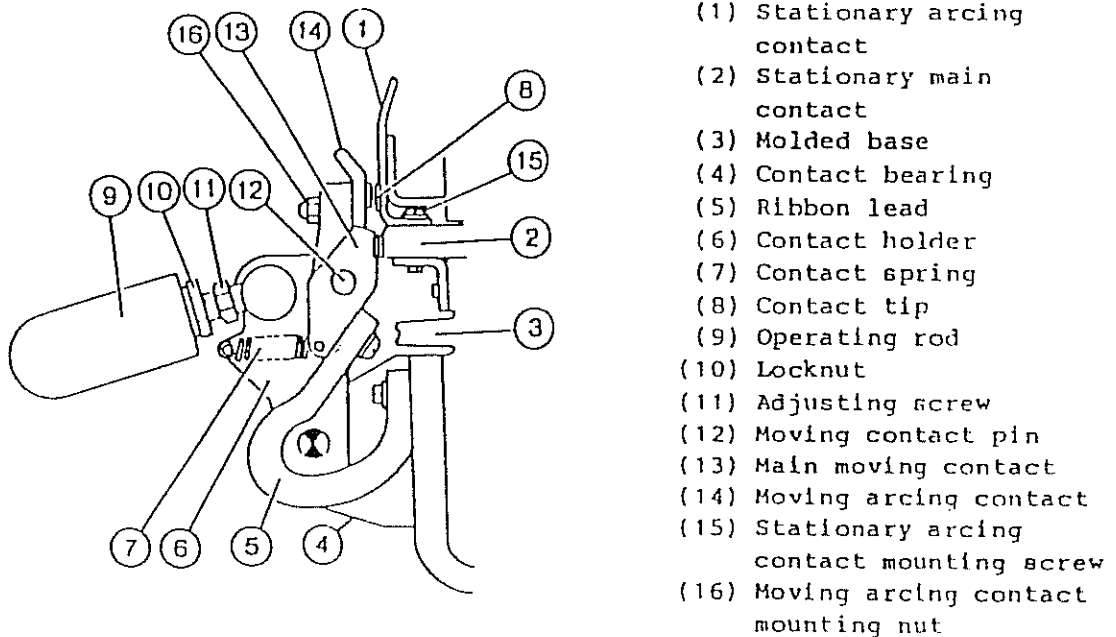

Fig. 12. Side view of contact assembly.
Mounting conditions	<ul style="list-style-type: none"> <li>o Check each moving arcing contact for loosening of mounting nut (M5) (Fig. 12 (16)). Retighten nuts as necessary.</li> <li>o Check each stationary arcing contact for loosening of mounting screws (two pan head M5) (Fig. 12 (15)). Tighten screws as necessary.</li> <li>o Check each contact tip pair for proper alignment in the closed position.</li> </ul>
### 1) Stationary Arcing Contact (see Fig. 12)
- (1) Remove the two mounting screws (Fig. 12 (15)) and remove the stationary arcing contact (Fig. 12 (1)).
- (2) Set a new stationary arcing contact in position and firmly tighten the two mounting screws.
2) Moving Arcing Contact (see Fig. 12)
- o Remove the mounting nut (Fig. 12 (16)) and remove the moving arcing contact (Fig. 12 (14)). Exercise care so as not to drop the spring washer.